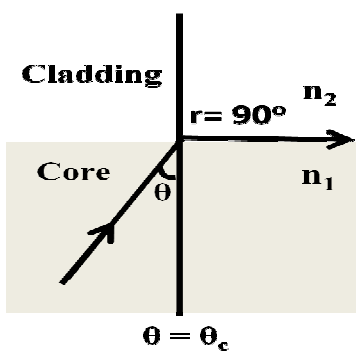

Fig.2
- ii. When $\theta = \theta_c$, then the ray travels along the interface of two media as shown fig. 2.